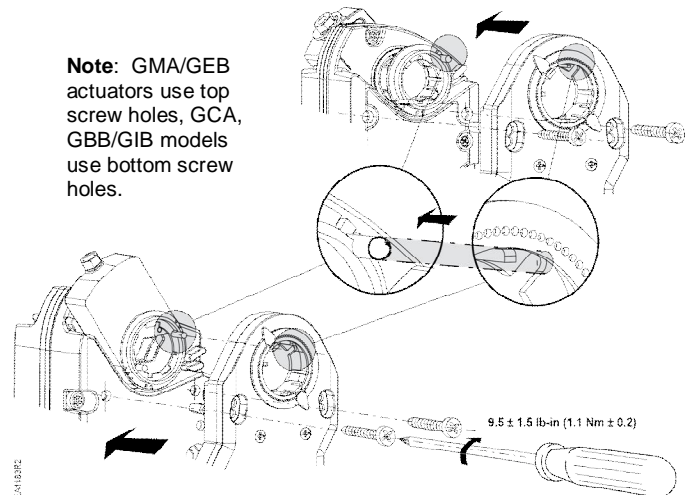

Figure 10. Bringing the EAS and the Actuator together.
1. Nest the alignment peg of the EAS position adapter ring into the notch (See Figure 10).
2. Secure the EAS in place with the M5x25 screws provided. (See Figure 10).